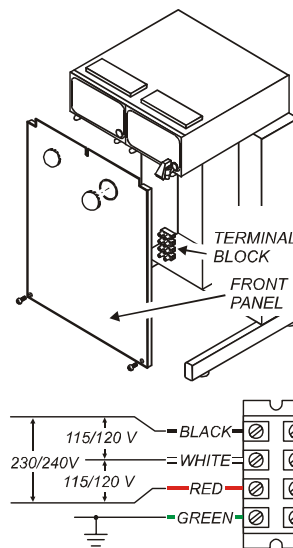

Fig. 3 115/240V Terminal Block
**Brewers** must be wired by an electrician, and require a dedicated 115/230V or 120/240V 20A circuit (50/60 Hz, L1, L2, Neutral, plus ground). Remove front panel to gain access to terminal block. Green terminal must be connected to a suitable building ground. Circuit must be capable of 4000 Watts (model 1090 and 1092) or 7000 Watts (model 1091 and 1093). See figure 3 at right.